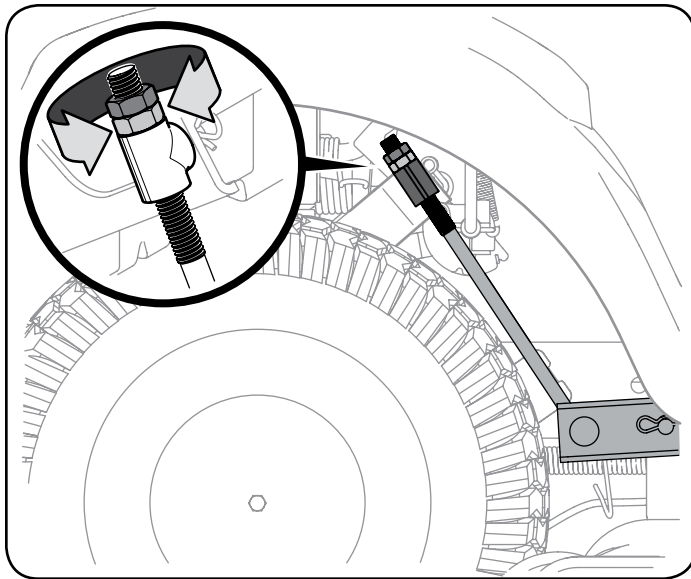

Figure 24
3. Under the rear fenders inside the wheels there is a lift adjustment rod for each side of the deck. See Figure 24.